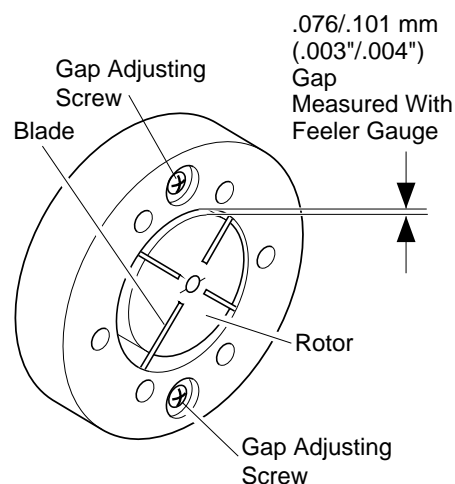

Figure 16 - Gap Adjusting Screw Locations
9. Check gap on rotor. Adjust to .076/.101 mm (.003"/.004") if needed (see Figure 16).